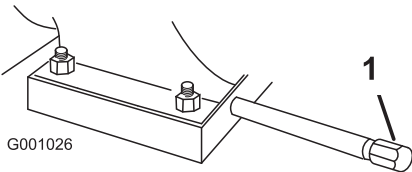

Figure 43
- 1. Clean the area around the oil drain cap (Figure 43).